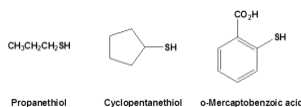

Figure 23.7a. Thiol structures of propanethiol, cyclopentanethiol and o-mercaptobenzoic acid (credit: Organic Chemistry \(Wade\), CC BY-NC-SA 4.0).
Thiols (also called mercaptans), which are sulfur analogs of alcohols, have the general formula RSH. Methanethiol (also called methyl mercaptan), has the formula CH_3SH . Ethanethiol (ethyl mercaptan) is the most common odourant for liquid propane (LP) gas. Some other thiols are shown in Figure 23.7a. Because of the lack of the ability to hydrogen bond, thiols have lower boiling points than the corresponding alcohols. For example, ethanethiol is a gas at room temperature.